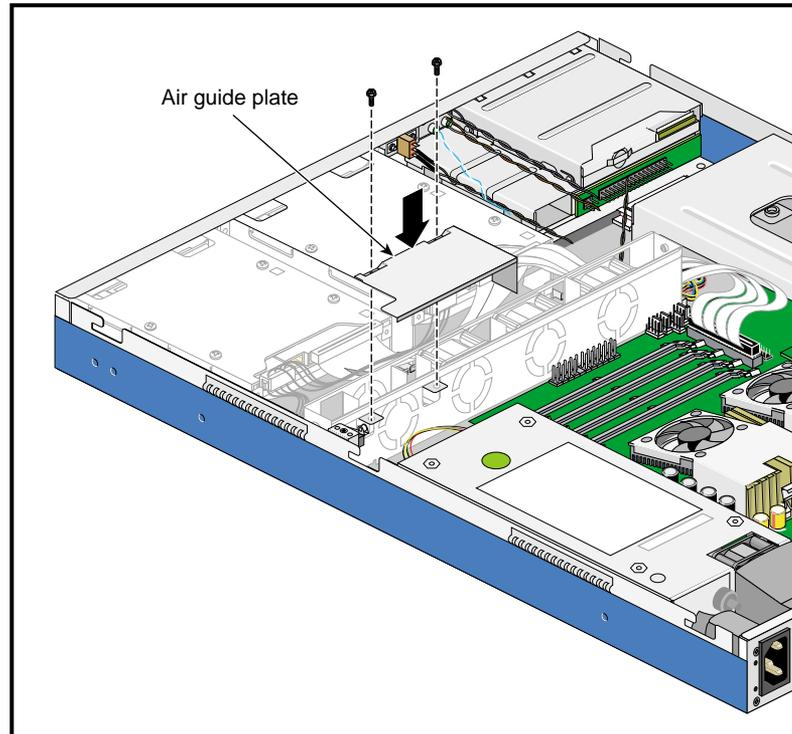

Figure 2-47 Installing the Metal Air Guide Plate
5. Install the metal air guide plate and secure it with two screws as shown in Figure 2-47.